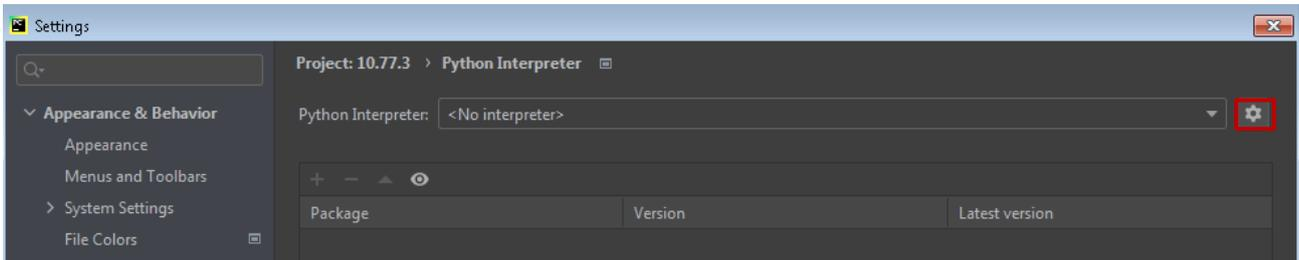

Figure 78 Empty Python interpreter
- ▶ Press on  next to the selection field (see Figure 78), select option 'Add ...' in the opened menu,